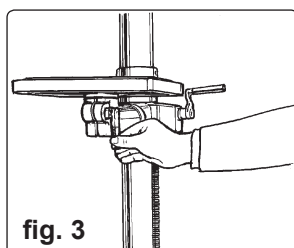

fig. 3
- 5.1.6. Install the table and table clamp bolt (fig.3).